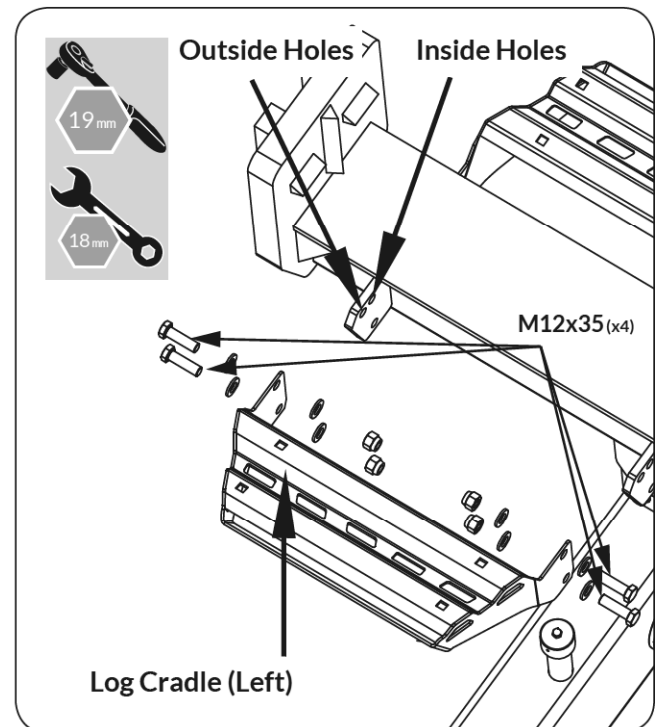

Figure 10b
2. Align the holes on the left log cradle to the inside and lower holes on the beam mounts. Insert the M12x35 bolts, flat washers, and nuts and securely tighten. (See **Figure 10b**)